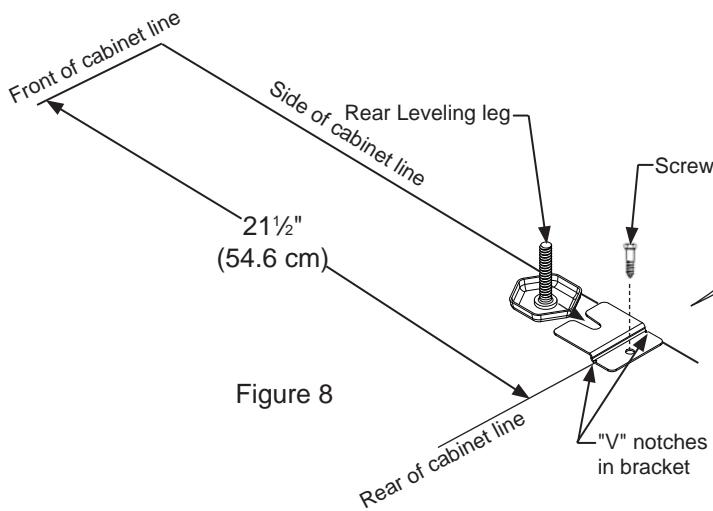

Figure 8
- 3) Make sure the refrigerator is in the desired location, then mark on the floor the rear and side corner of the cabinet where the anti-tip bracket will be installed. If the installation does not allow marking the rear corner of the cabinet, then make temporary lines on the floor marking the front corner of the cabinet, excluding the drawer. Slide the refrigerator out of the way. From the temporary line extend the sidewall line back 21 1/2" (54.6 cm) as shown in Figure 8.
- 5) Fasten the anti-tip bracket to the floor using the supplied screw. (See Figure 8).